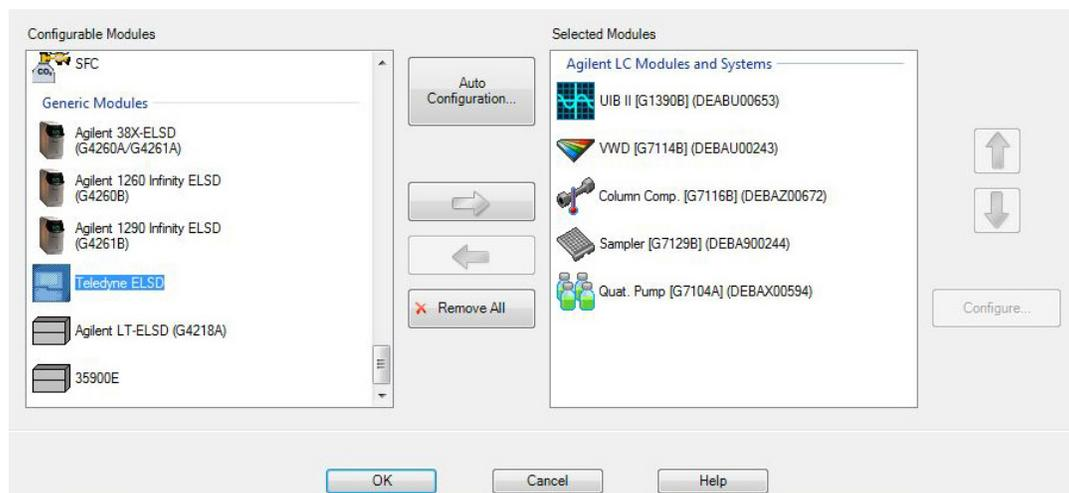

Figure 5: Instrument Configuration screen
1. Open the Agilent software and select menu item **Instrument** and choose **Instrument Configuration** (Figure 5).
2. Choose the Teledyne ISCO ELSD icon under the **Configurable Modules** list, and click the arrow pointing to the right to move it into the **Selected Modules** list on the right (Figure 5).
3. Click the Teledyne ISCO ELSD icon that is now in the **Selected Modules**, and click the **Configure...** button to bring up the ELSD driver configuration (Figure 5).